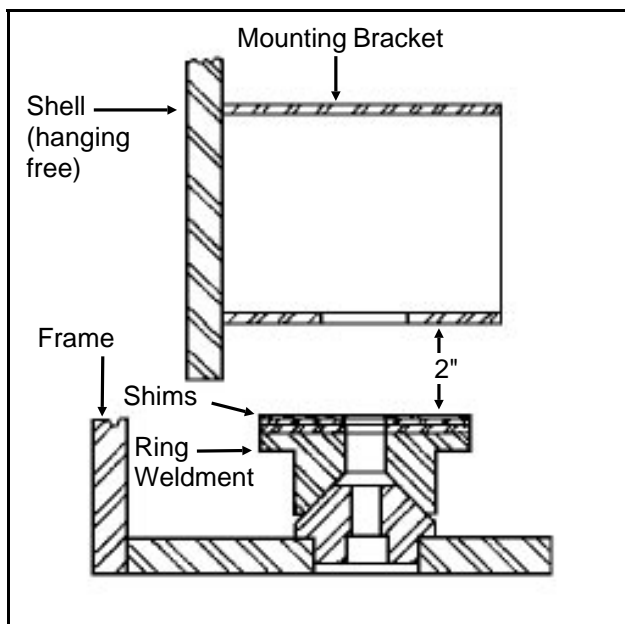

FIGURE 5 (MSSM0302AE)
These machines have push-down stops on the four corners of the frame which appear as shown in FIGURES 5 and 6. When pushed down, the ring weldments (which move with the shell) must seat firmly onto the plugs which are mounted atop the base pads. The push-down travel dimension must assure that 1) the ring weldments and plugs are far enough apart when the shell is not pushed down, so as not to interfere with the free movement of the shell, and 2) that all four stops are in solid contact when the shell is pushed down. To accomplish this, proceed as follows:
3. Stack shims on top of the ring weldment as required to make each gap *exactly 2 inches* as shown in FIGURE 5. If the gap at any location is less than 2 inches without shims, the shell must then be raised in the frame, using the procedures previously described.